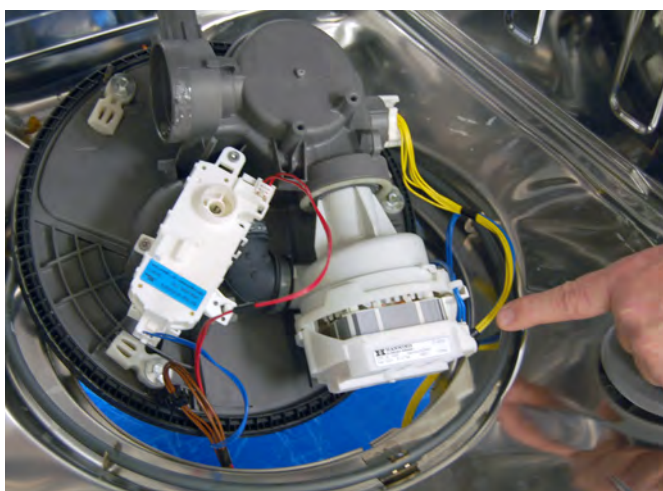

Figure 18
13. Unplug the wash motor harness, see figure 18.